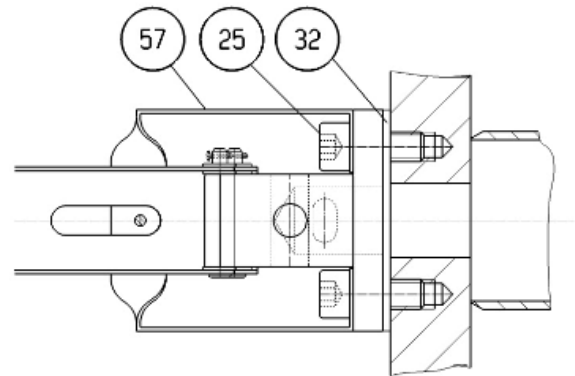

Fig. 16b
- In order to take the cover flange, pos. 11 off, you need to first remove the protective cap, pos. 72 and unscrew the gland, pos. 74 of the lever.
- Remove the cover plate hexagon screws, pos. 21 and take the cover off
- Remove the two hexagon socket screw (similar to pos. 25 of fig. 16b) and you can take the entire control unit out and exchange it.
- Always replace the gasket of the control unit (similar pos. 32 of fig. 16b) and the cover-gasket during re-assembly. Proceed per chapter 9.